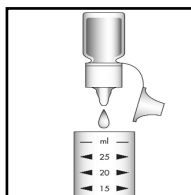

Figure 1
1. Add 5 drops of A-7004 Acidifier Solution to the empty sample cup (fig. 1).